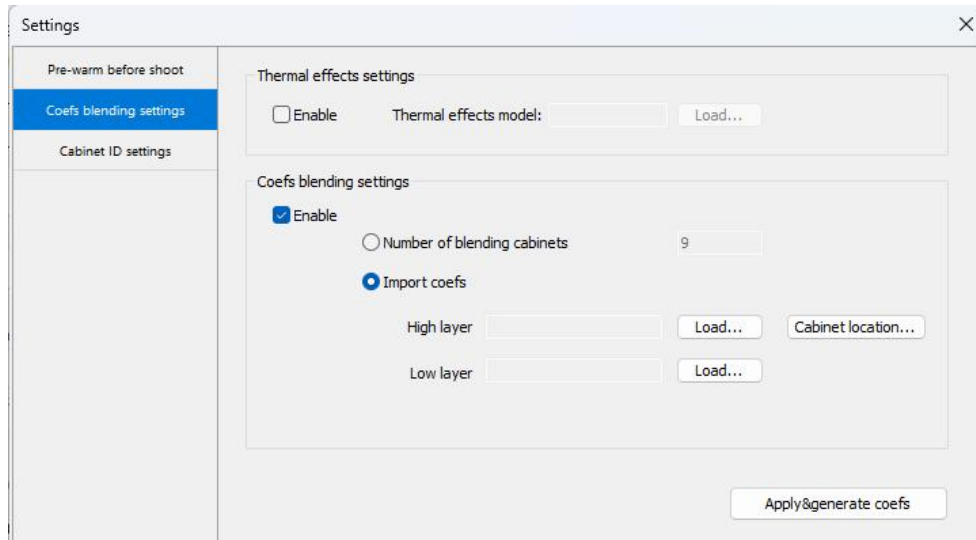

Fig.3-102 Single cabinet calibration settings
- **High brightness calibration:** Select **Coefs blending settings** to access the tab. See Figure 3-102.